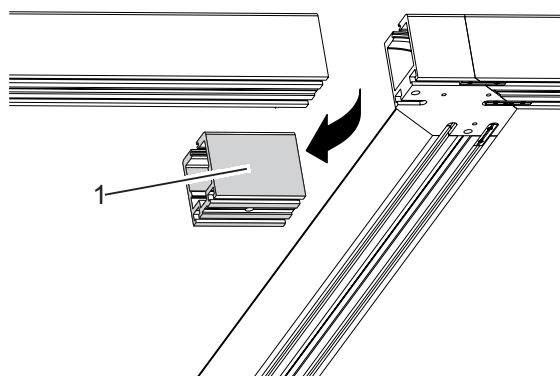

Fig. 9: Removing the revision piece
1. Remove the revision piece (Fig. 9/1).
1. If not done, remove the revision piece (Fig. 9/1).